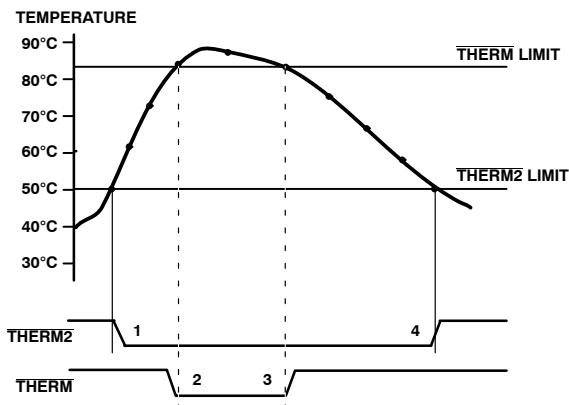

Figure 21. Operation of the THERM and THERM2 Interrupts
Figure 21 shows how THERM and THERM2 might operate together to implement two methods of cooling the system. In this example, the THERM2 limits are set lower than the THERM limits. The THERM2 output could be used to turn on a fan. If the temperature continues to rise and exceeds the THERM limits, the THERM output could provide additional cooling by throttling the CPU.
3. The THERM output deasserts (goes high) when the temperature falls to THERM limit minus hysteresis. No hysteresis value is shown in Figure 21.